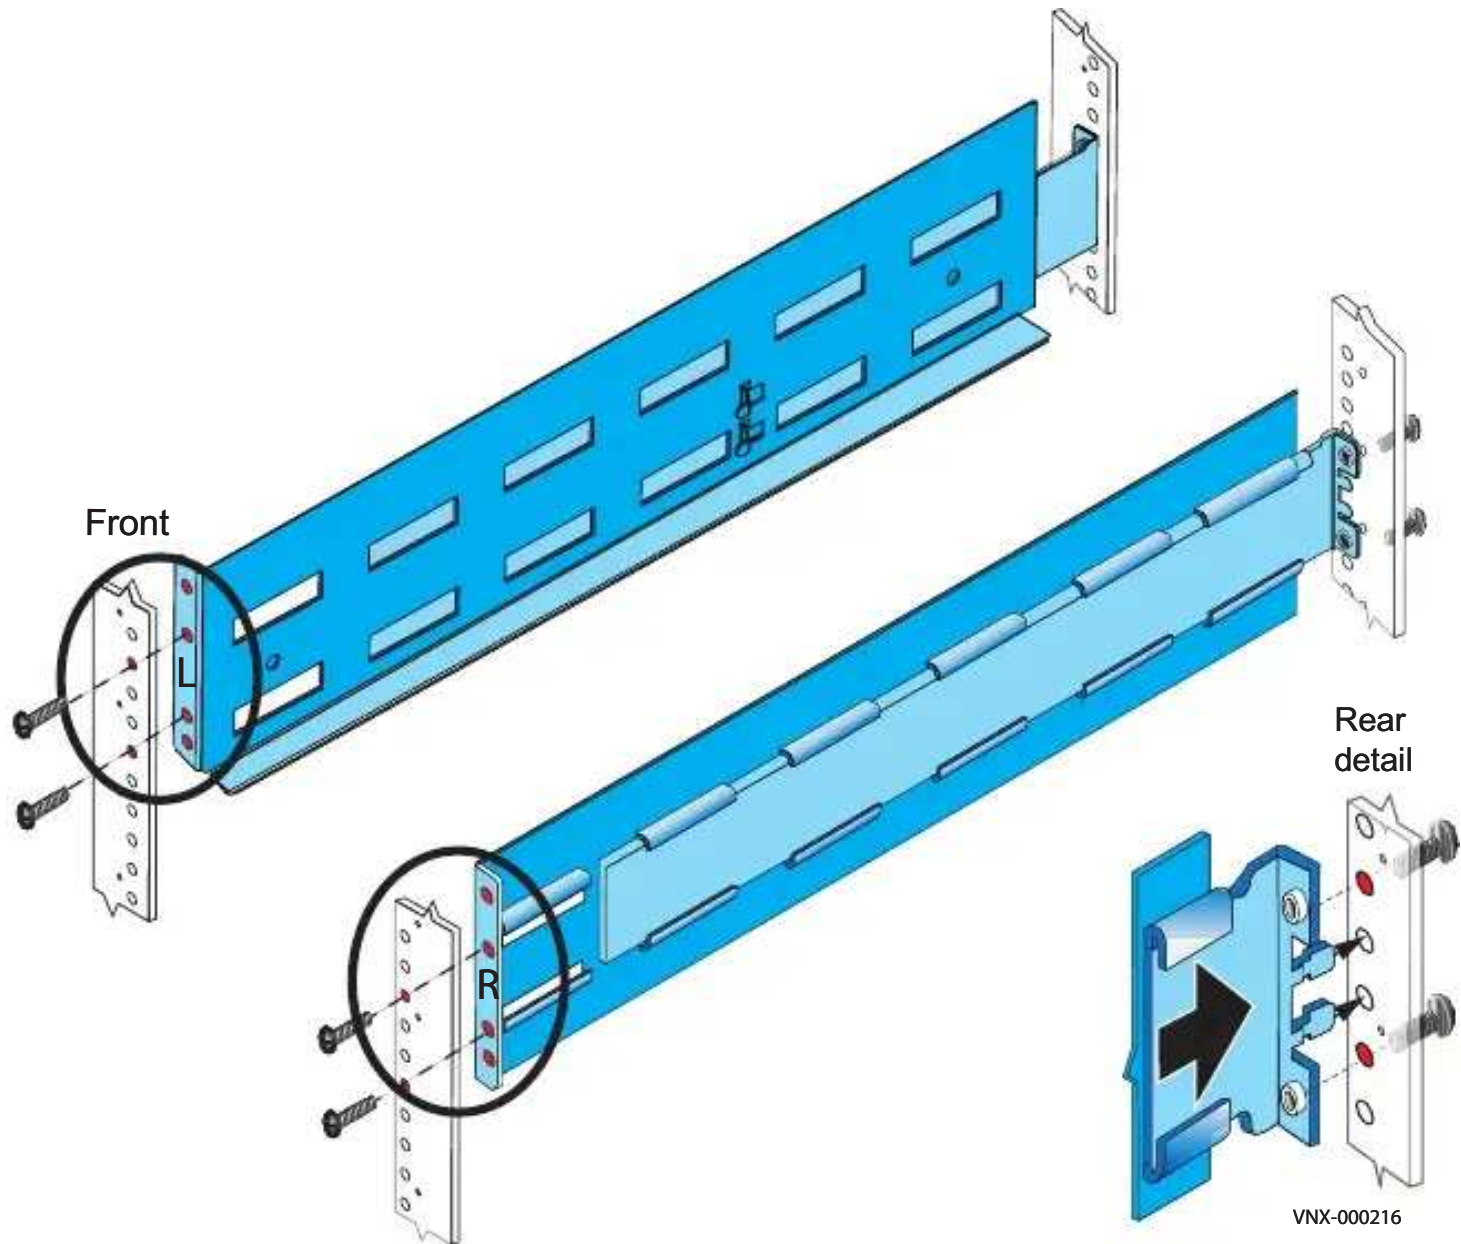

Figure 17 Installing 3U DAE rails
2. Extend the rail and align the front of the rails as shown in Figure 17.
3. Insert two retention screws in the middle two holes of the front and two retention screws in the back of each rail (3U rails) as shown in Figure 17. For 2U rails, insert one screw in the lowest hole of the front and two in the back of each rail as shown in Figure 18 on page 29.